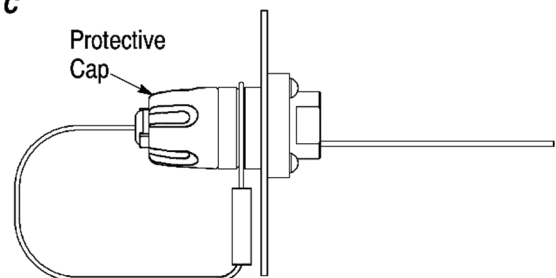

Figure 12
2. Install the connector through the front or back of the panel (refer to Step 10 of Paragraph 5.6) so that the flange O-ring on the square flange housing is flat against the panel. See Figure 12, Detail A.
4. Fit the loop of the tether wire around the groove at the front (threaded end) of the square flange housing. See Figure 12, Detail B.
5. Thread the protective cap onto the housing, then hand-tighten the protective cap as shown in Figure 12, Detail C.